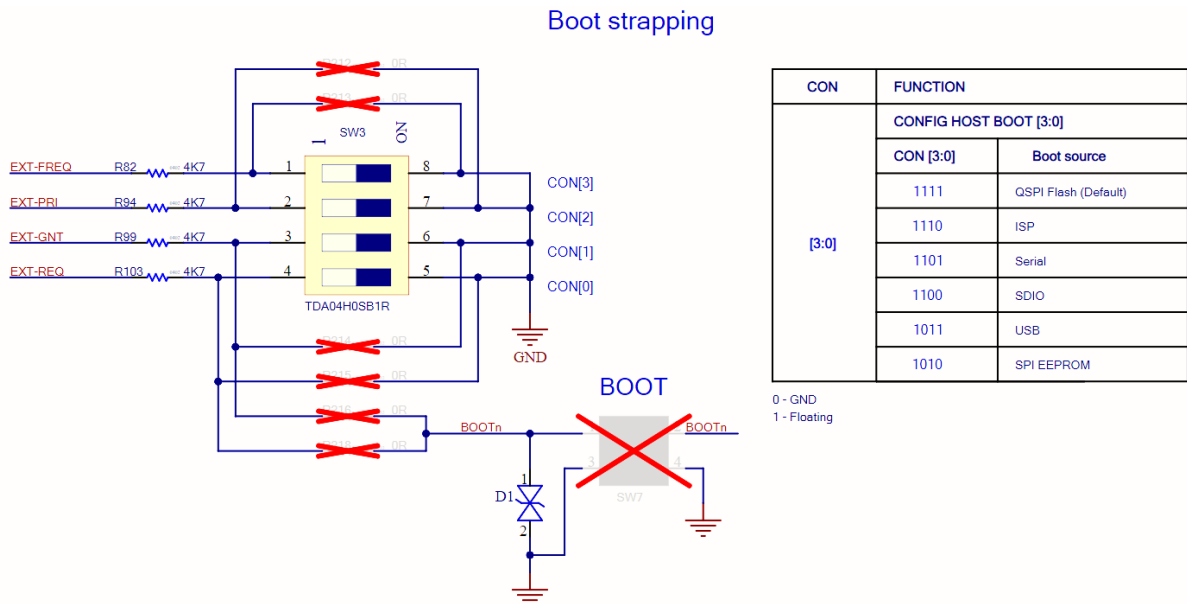

Figure 16: Bootloader schematic
Figure 16 shows bootloader configuration and sources available to user. Several signals and DIP switch combinations used to configure the EVK so it can boot in several scenarios.
- o Four active-high signals (**EXT-FREQ, EXT-PRI, EXT-GNT, EXT-REQ**) are used to select boot source. They correspond to CON3, CON2, CON1 and CON0 respectively in the table shown in Figure 16.
- o For example, to select ISP as boot source, GND the signal **EXT-REQ** on SW3. Alternatively, other configurations are possible as described in the table data shown in Figure 16.